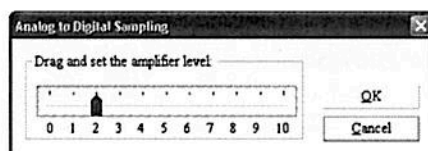
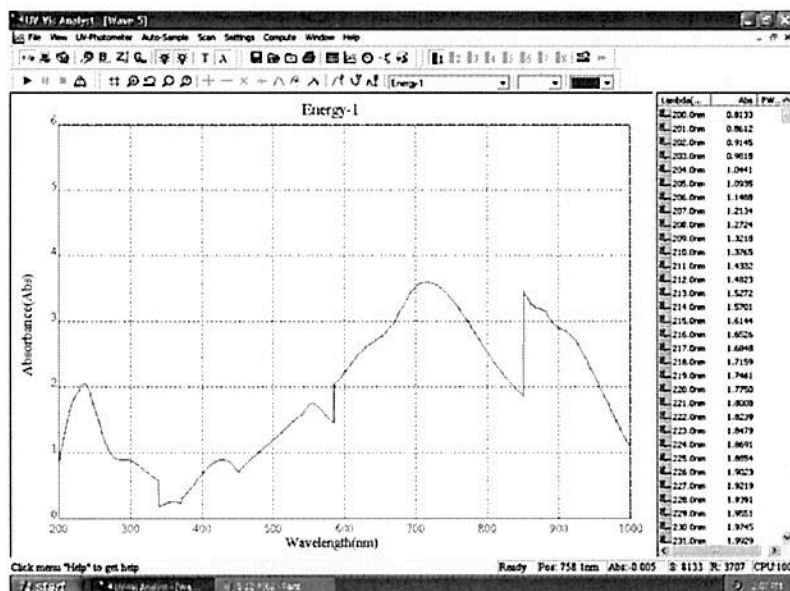

Fig. 5-9
Fig. 5-10
4. Click **Scan**→**Service**→**Energy Scan** on the Menu, appears following form (Fig. 5-9), select the amplifier, click **OK** to scan (Fig. 5-10). Click  to cancel while scanning.